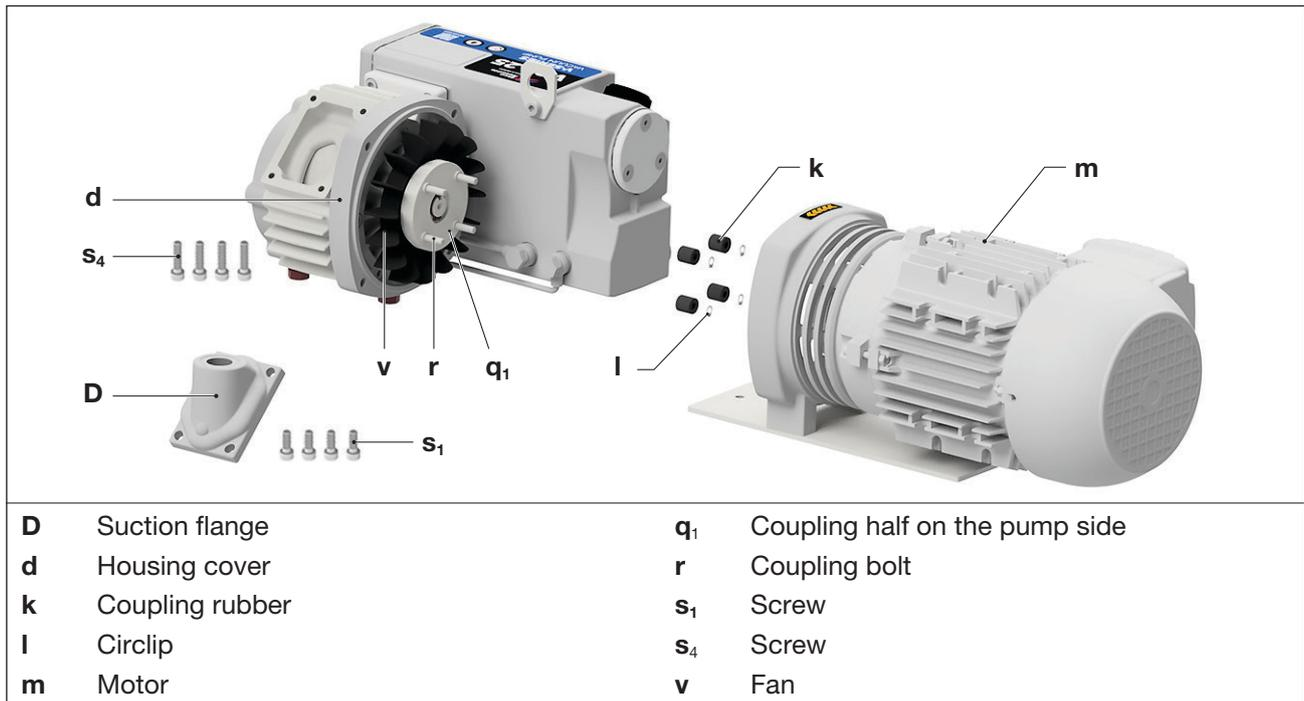

Fig. 8 Coupling
The coupling rubbers (Fig. 8/k) are subject to wear and must be checked regularly (at least once a year). Worn coupling rubbers are noticeable by a hammering noise when the pump is started.
- Undo the screws (Fig. 8/s1) on the suction flange (Fig. 8/D) and remove the suction flange from the pump.
- Undo the screws (Fig. 8/s4) on the housing cover (Fig. 8/d).
- Pull the pump with the coupling half on the pump side (Fig. 8/q1) and the fan (Fig. 8/v) axially off the motor (Fig. 8/m).
- Check the coupling rubbers (Fig. 8/k) for damage and wear and replace if necessary. To do this, remove the circlips (Fig. 8/l) and the worn coupling rubbers (Fig. 8/k) from the coupling bolts (Fig. 8/r) and slide new coupling rubbers with the circlips onto the coupling bolts.
- Reassemble the pump with the coupling half on the pump side and the fan to the motor and secure it with the four screws (Fig. 8/s4). Tightening torque: 10 Nm
- Reassemble the suction flange to the housing and secure it with the four screws (Fig. 8/s1). Tightening torque: 10 Nm